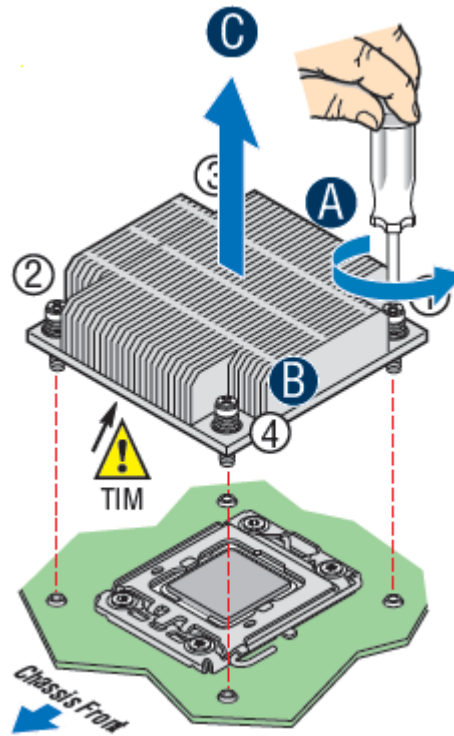

Figure 26. Removing Processor Heatsink
1. Remove the processor heatsink, see Figure 26.